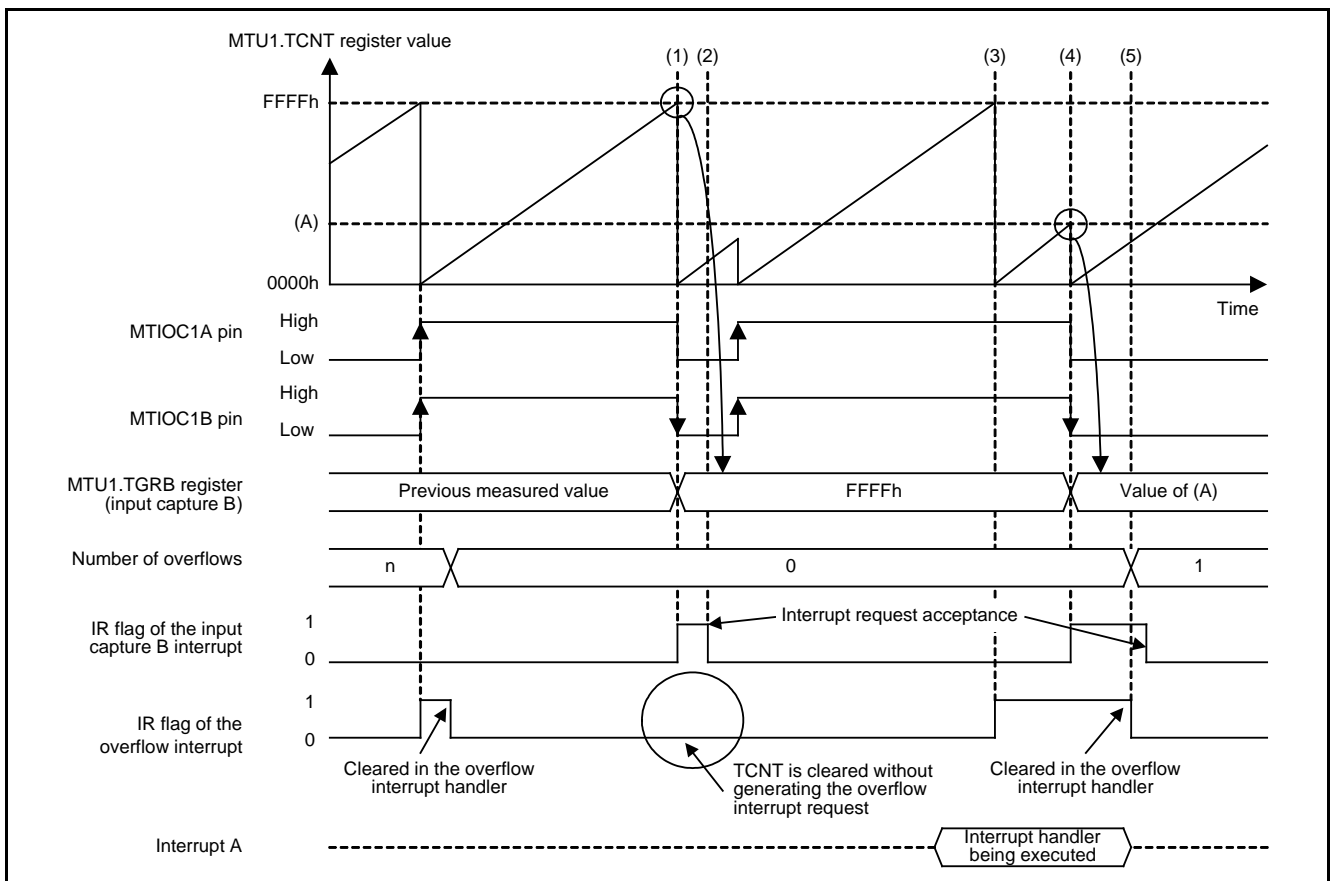

Figure 5.2 Timing Diagram When an Input Capture and Overflow Occur Simultaneously
- (1) When a falling edge occurs on the signal input to the MTIOC1B pin while the MTU1.TCNT register value is FFFFh, the MTU1.TCNT register is cleared and the input capture B interrupt request is generated after FFFFh in the MTU1.TCNT register is transferred to the MTU1.TGRB register. If an overflow and counter clear occur simultaneously, the counter clear has higher priority. Thus the overflow interrupt request is not generated.
- (2) In the input capture B interrupt handler, the MTU1.TGRB register value (FFFFh) is read and the pulse width is calculated.
- (3) When the MTU1.TCNT register value overflows while an interrupt handler (hereinafter referred to as interrupt handler A) other than an overflow interrupt handler and input capture B interrupt handler is being executed, the overflow interrupt handler is delayed.
- (4) When a falling edge occurs on the signal input to the MTIOC1B pin while interrupt handler A is being executed, the MTU1.TCNT register value is transferred to the MTU1.TGRB register and the input capture B interrupt request is generated (input capture B interrupt handler is delayed).
- (5) When interrupt handler A is completed, the overflow interrupt which has the higher interrupt priority level is executed first. In the overflow interrupt handler, the number of overflows increments by 1. In the input capture B interrupt handler which is subsequently accepted, the pulse width is calculated.
Figure 5.2 shows the Timing Diagram When an Input Capture and Overflow Occur Simultaneously. (1) to (5) in the figure correspond to (1) to (5) in the description above.